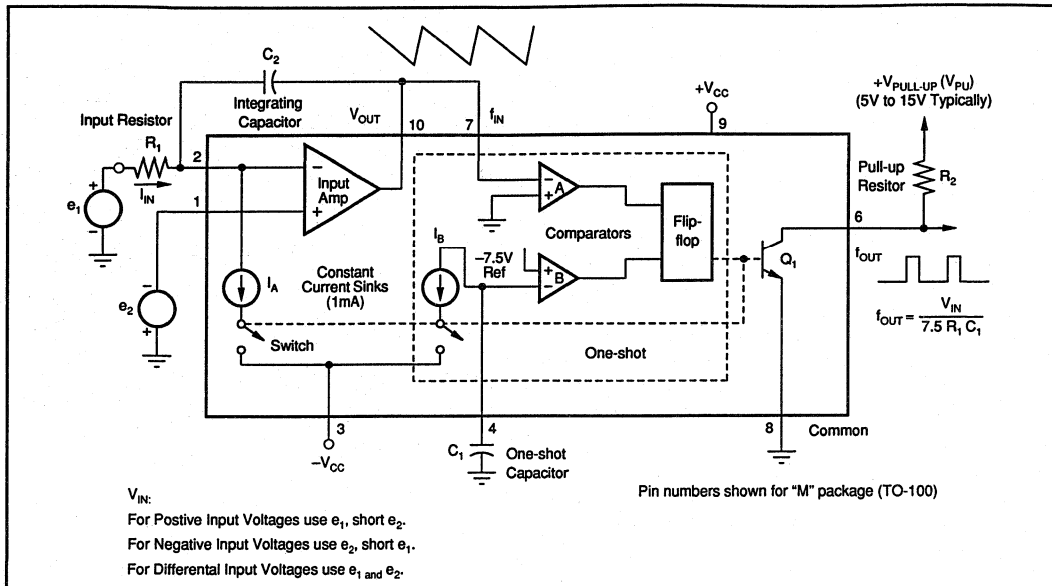
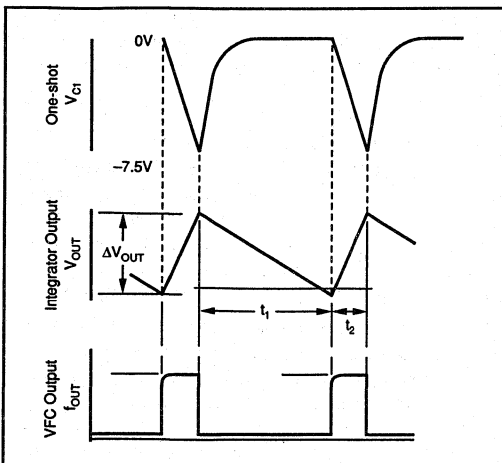

FIGURE 4. Functional Block Diagram of the VFC320.
FIGURE 5. Integrator and VFC Output Timing.
The VFC320 monolithic voltage-to-frequency converter provides a digital pulse train output whose repetition rate is directly proportional to the analog input voltage. The circuit shown in Figure 4 is composed of an input amplifier, two comparators and a flip-flop (forming a one-shot), two switched current sinks, and an open collector output transistor stage. Essentially the input amplifier acts as an integrator that produces a two-part ramp. The first part is a function of the input voltage, and the second part is dependent on the input voltage and current sink. When a positive input voltage is applied at V_{IN} , a current will flow through the input resistor, causing the voltage at V_{OUT} to ramp down toward zero, according to $dV/dt = V_{IN}/R_1 C_1$. During this time the constant current sink is disabled by the switch. Note, this period is only dependent on V_{IN} and the integrating components.
The transfer function for the VFC320 is derived for the circuit shown in Figure 4. Detailed waveforms are shown in Figure 5.
In general, the design sequence consists of: (1) choosing f_{MAX} ; (2) choosing the duty cycle at full scale ($D_{FS} = 0.25$ typically), (3) determining the input resistor, R_1 (Figure 4), (4) calculating the one-shot capacitor, C_1 , (5) selecting the integrator capacitor C_2 , and (6) selecting the output pull-up resistor, R_2 .